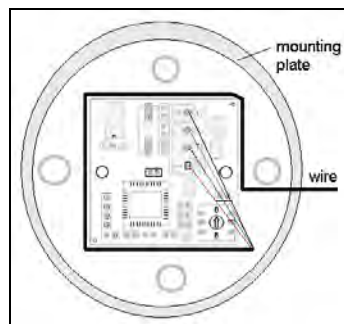
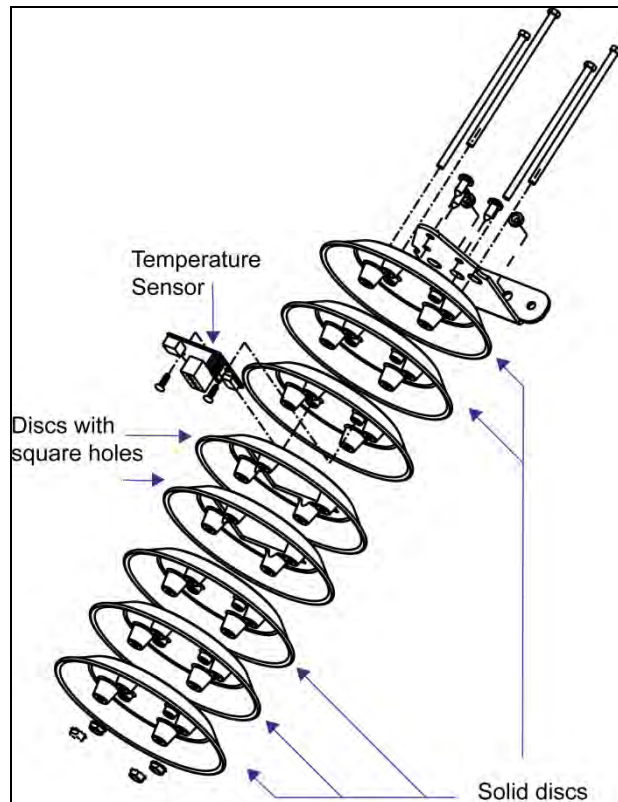

Figure 39: Wire and Sensor Board
Figure 40: Temperature Sensor
The temperature sensor, shown in **Figure 39** and **Figure 40** is a small sensor board located inside the plastic housing. This is mounted outside, typically either near the display or near the building.
5. Route cable around the sensor board, as shown in **Figure 39**, and then reassemble the sensor housing.